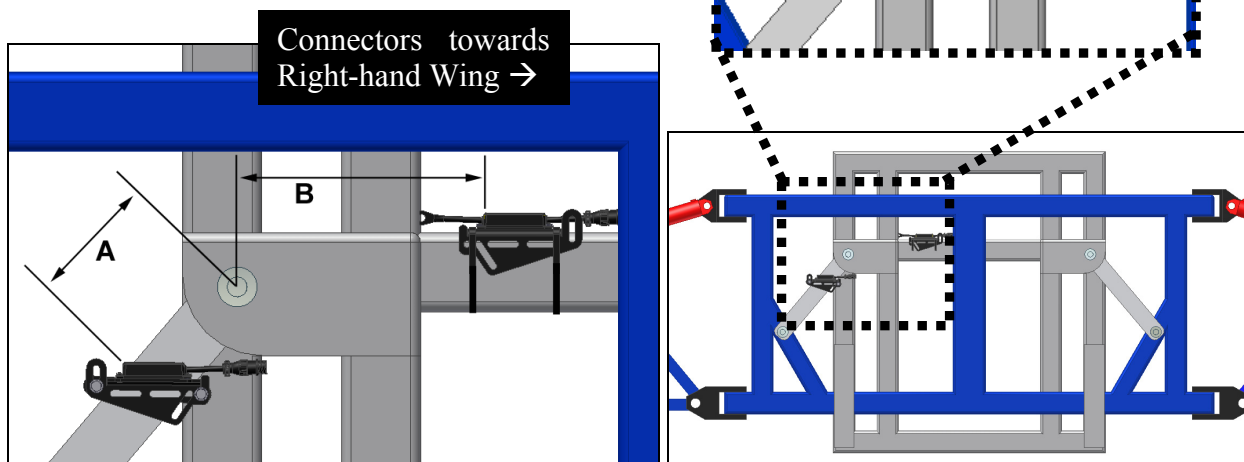

Figure 15 – General Roll Sensor Mounting Location on a Trapeze Style Boom
When mounting the roll sensors, use the following guidelines and refer to **Figure 15**
- The smaller the distance between **A** and **B** in **Figure 15**, the better the performance will be.
! The chassis roll sensor must be mounted on a portion of the sprayer that does not pivot and is as close to the boom frame roll sensor as possible (**Figure 15**).